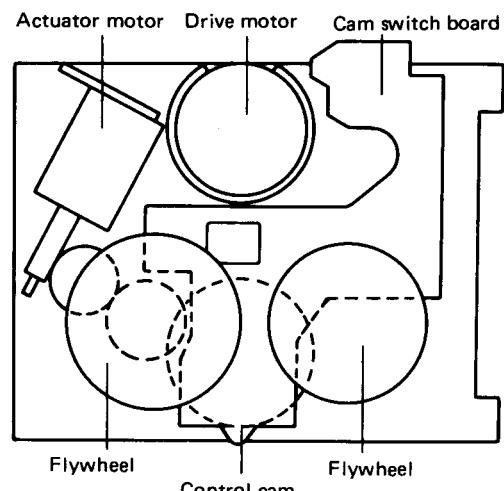
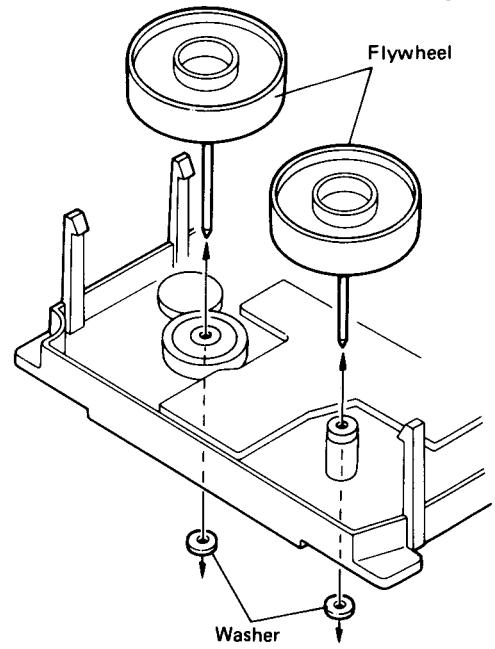
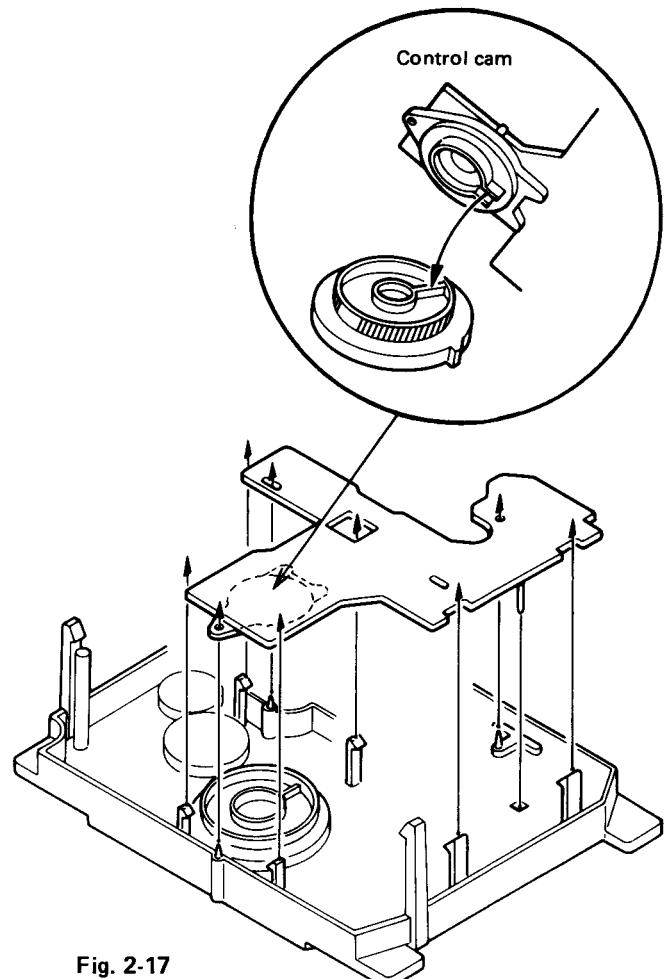
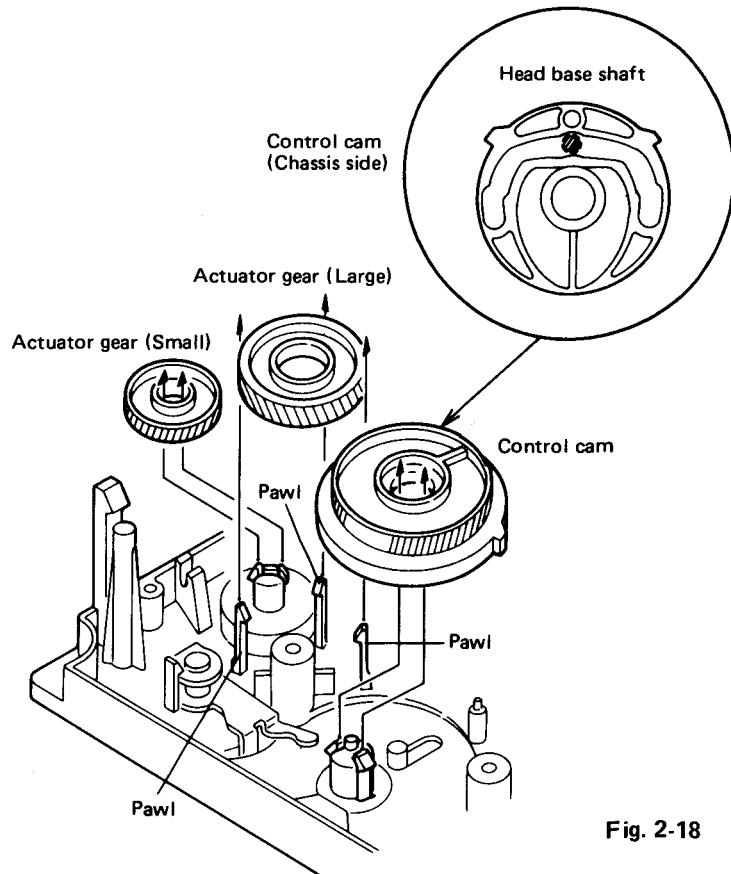

Fig. 2-14
Fig. 2-15
Fig. 2-17
Fig. 2-18
- **Flywheel assembly (Fig. 2-14, Fig. 2-15)**
■ **Cam switch board** (Fig. 2-14, Fig. 2-17)
■ **Actuator gear (large)** (Fig. 2-14, Fig. 2-18)
■ **Control cam** (Fig. 2-14, Fig. 2-18)
■ **Actuator gear (small)** (Fig. 2-14, Fig. 2-18)